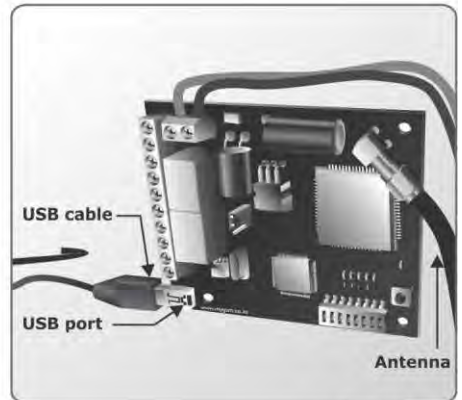

FIGURE 7.
6. Connect the USB cable to the USB port as shown in Figure 7 and follow the programming instructions in Section 13.